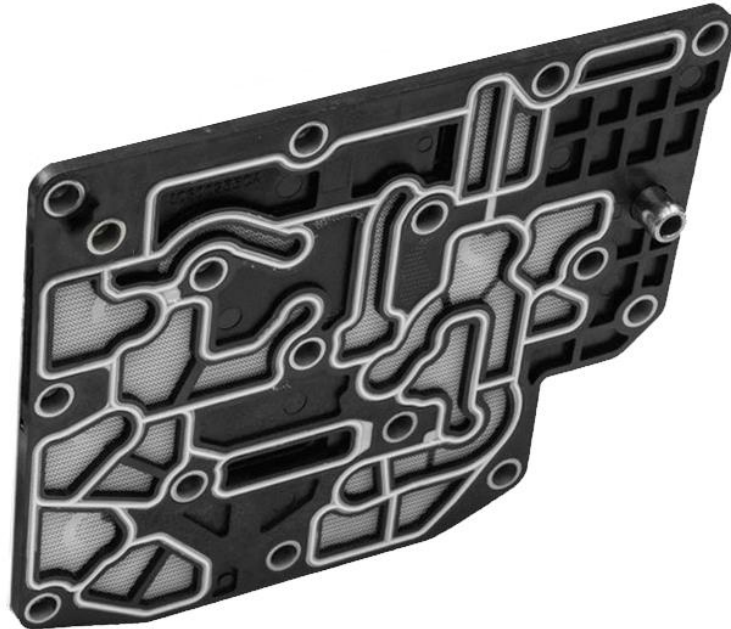

Figure 1. 2019+ Solenoid Gasket
**IMPORTANT!** 2019+ valve bodies use an updated solenoid gasket, which must be carefully cleaned, inspected, and reused (Figure 1). If it must be replaced, it is only available with a new solenoid pack.